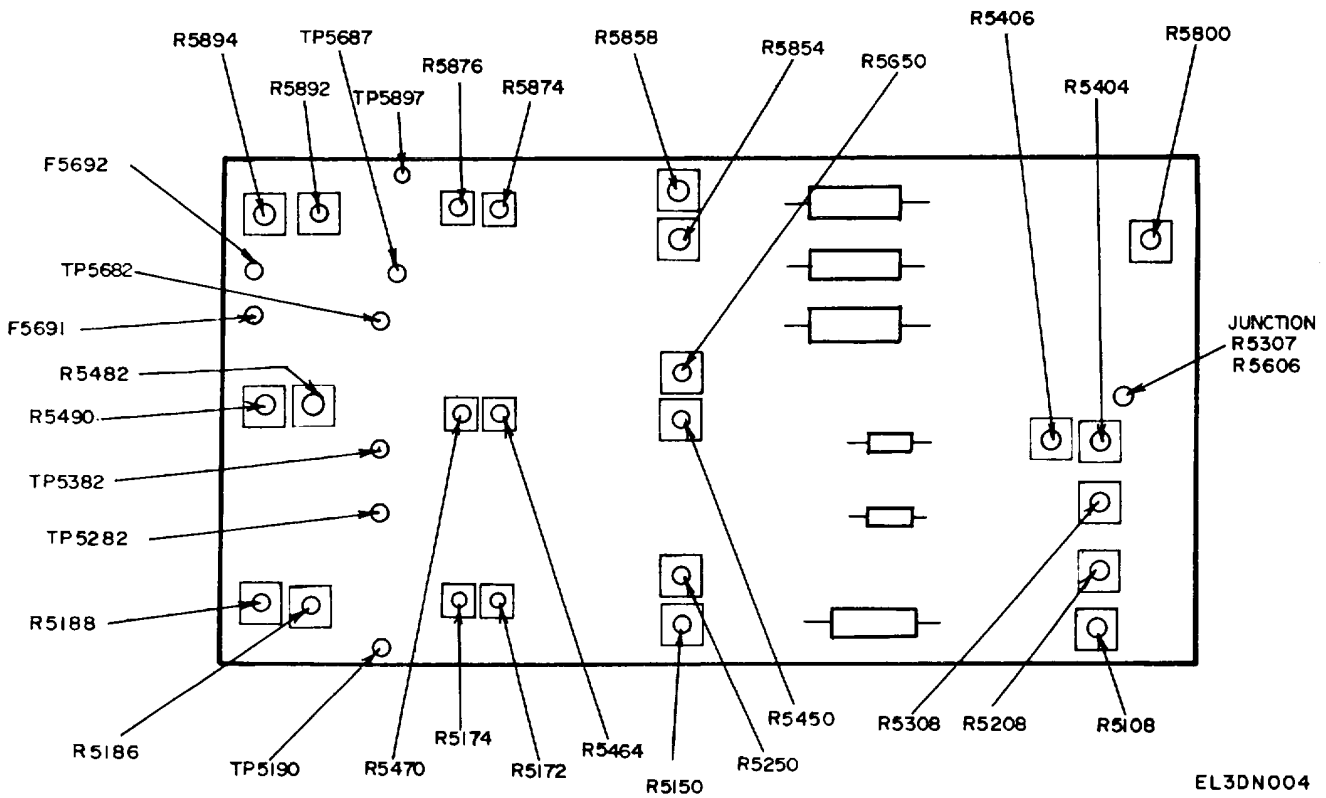
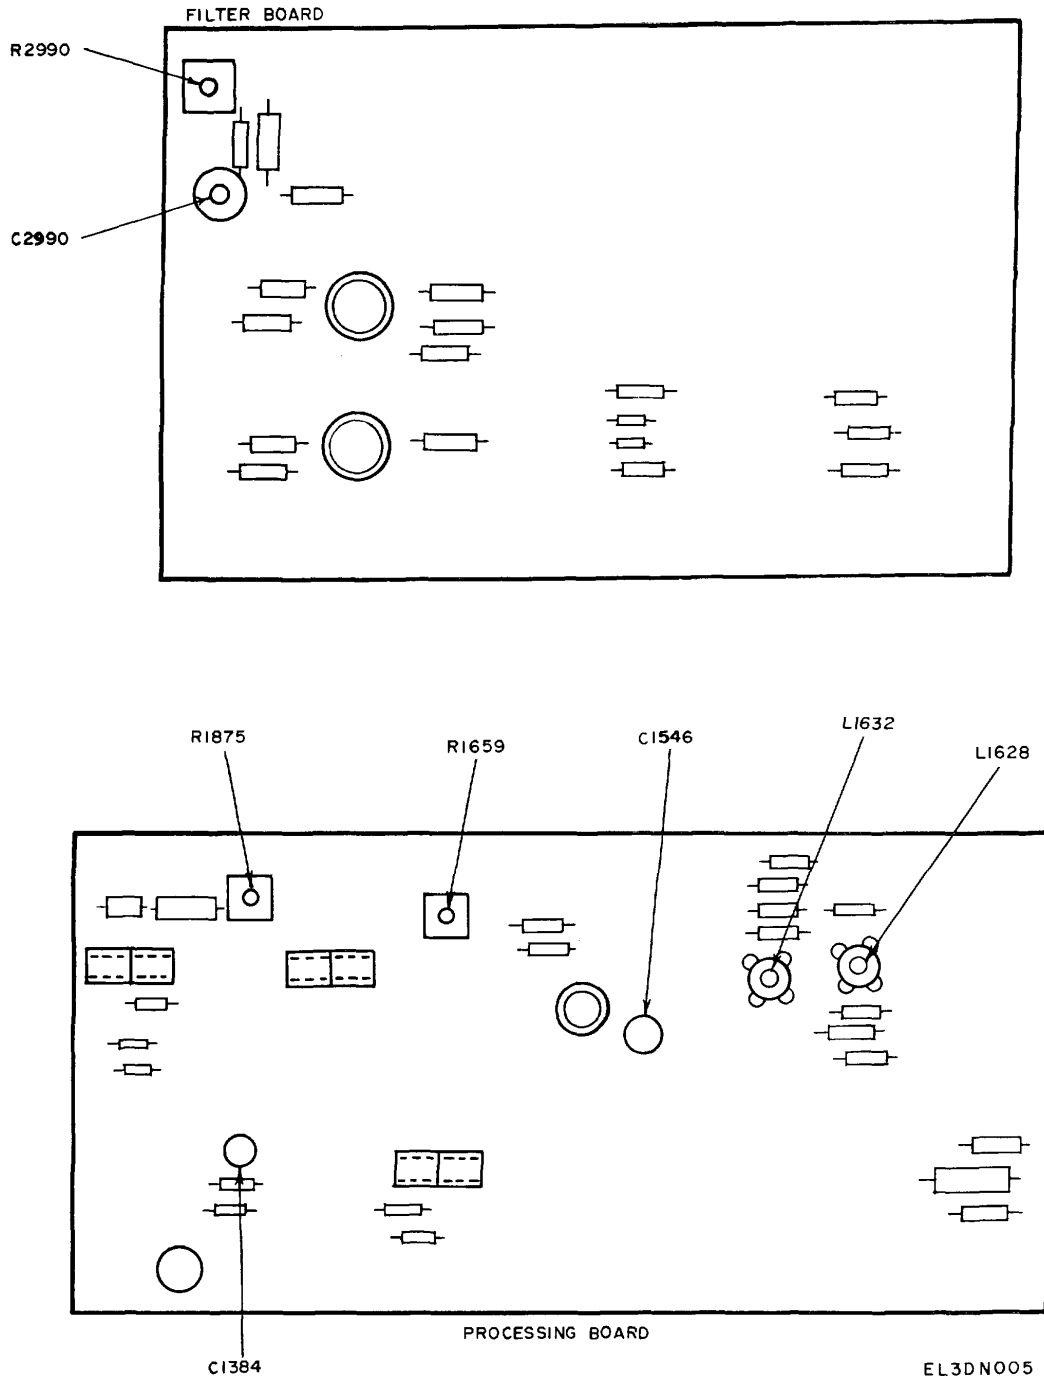

Figure 4. Error amplifier board - component locations.
Figure 5. Filter and processing boards - component locations.
(8) Adjust R5404 (fig. 4) for zero APL indication on oscilloscope (R).
- (1) Adjust waveform monitor (A7) for A-B differential measurement.
- (2) Set manual luminance gain for unity gain through T1.
- (3) Adjust manual chroma gain R5854 (fig. 4) for minimum preshoot on T pulse in sin2 pulse and bar signal.
(4) Verify that 4.1 MHz multiburst packet is of equal amplitude to white bar. If not, perform b(l) below.
(5) Adjust C2790 and R2990 (fig. 5) for best response of T pulse in sin2 pulse and bar signal.
(6) Repeat (2) through (5) above to compensate for interaction of control settings.
(7) Connect output of video signal source (A6) directly to CH-A input of vectorscope (A5).
(8) Adjust vectorscope CH-A gain until displayed burst tip is exactly on graticule edge.
(9) Connect video signal source output to TI PROGRAM IN, and connect TI PROGRAM OUT to vectorscope CH-A input.
(10) While rotating R5250 (fig. 4) to display both sides of VIR signal, verify that burst amplitude on both sides is equal. If amplitudes are unequal, perform b(2) below.
(11) Adjust R5250 to overlay burst and VIR signal vectors.
(12) Remove fuses F5692 and F5691 (fig. 4).
(13) Set waveform monitor for differential measurement.
(14) Adjust R5406 and R5404 (fig. 4) for null on waveform monitor.
(15) Set waveform monitor for single channel operation, and adjust R5800 (fig. 4) for flat bottom on 12.5 T pulse.
(16) Set waveform monitor for differential measurement, and adjust R5308 (fig. 4) for null indication.
(17) Adjust R5208 (fig. 4) to overlay burst and VIR signal amplitude as displayed on vectorscope.
(18) Adjust R5108 (fig. 4) to overlay burst and VIR signal phase as displayed on vectorscope.
(19) Set waveform monitor for differential measurement.
(20) Adjust R5858 and R5450 (fig. 4) for null indication on waveform monitor.
(21) Repeat (15) above, but adjust R5854 (fig. 4).
(22) Repeat (16) above, but adjust R5650 (fig. 4).
(23) Repeat (17) and (18) above, adjusting R5150 and R5250 (fig. 4), respectively.
(24) Replace fuses F5692 and F5691 removed in (12) above.
(25) Connect oscilloscope (A4) to test points listed in (a) through (f) below, using probe (B2).
Refer to figure 4 for test point locations. If oscilloscope does not indicate zero volt dc at each test point, perform b(3) below.
(1) Adjust C1384 (fig. 5) until 4.1 MHz multiburst packet and white bar are of equal amplitude (R).
(2) Adjust L1632 and L1628 (fig. 5) for equal amplitude of burst on both sides of VIR signal phase.
(3) Perform corresponding adjustments for zero volt at each test point listed below (see fig. 4).